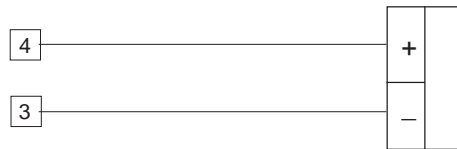

Fig. 5.3
- a) Connect the instrument to the calibrator as shown in Fig. 5.3.
- a) Set 5,000 V on the calibrator (see Fig. 5.3).